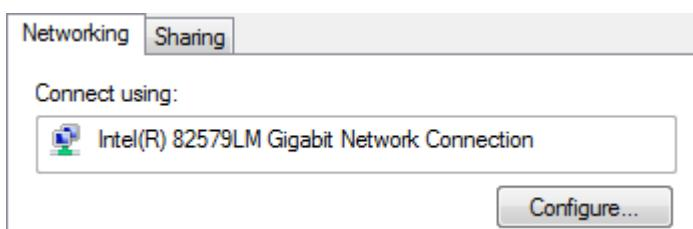

Figure 79: Access to network interface card driver settings
3. Press the *Configure* button below the name of the physical network interface, shown in Figure 79.